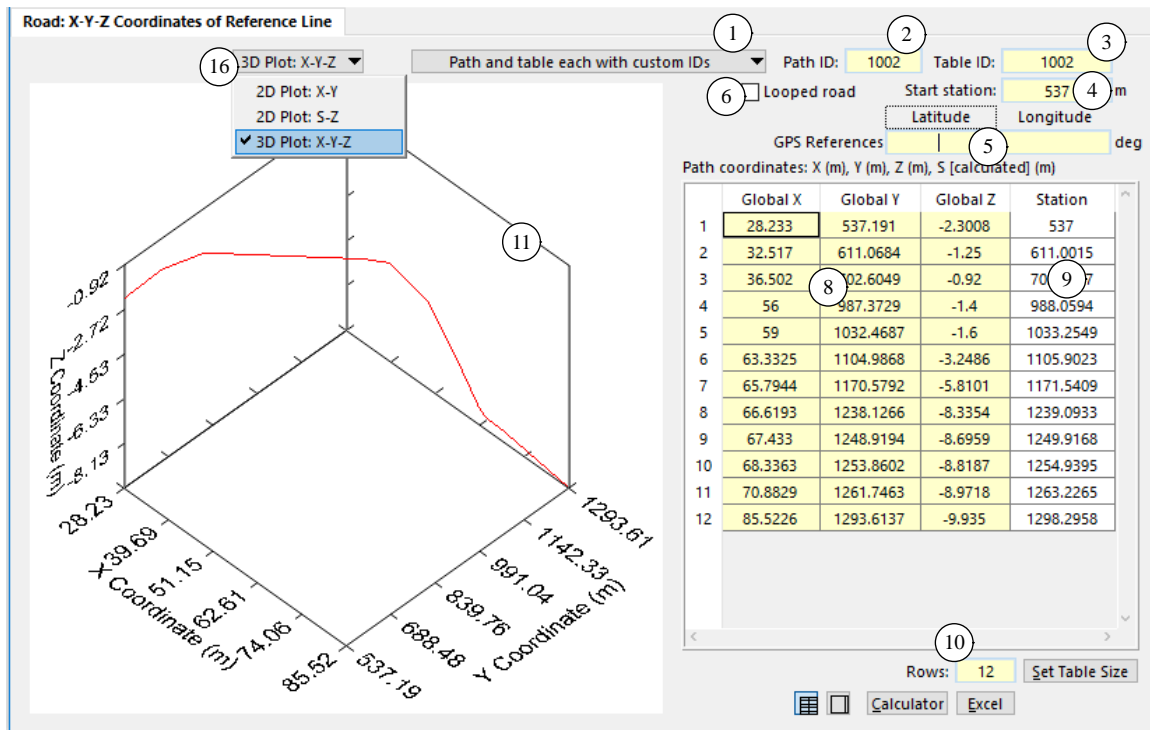

Figure 38. The Road: X-Y-Z Coordinates of Reference Line screen.
Use this screen (Figure 38) to define both the path used for a road and the associated elevation with a table of X-Y-Z values.
- ⁽¹⁶⁾ Drop-down list to specify the information plotted on the screen. Options include plotting the horizontal (X-Y) data, plotting the elevation (S-Z) data, or plotting a 3D view of the centerline as shown in Figure 38 in the graphic area. If the 3D view is selected, you can pan using the left-mouse button, and zoom using Ctrl plus the left mouse button.